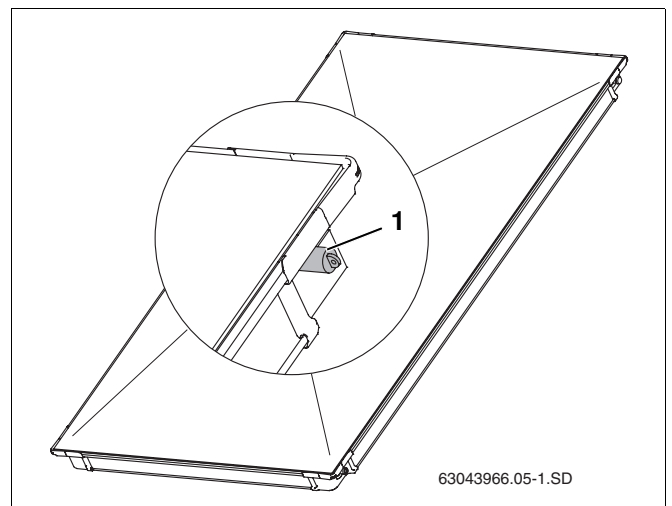

Fig. 5 Plastic caps on collector connections
- Do not remove the rubber caps (Fig. 5, **Item 1**) until immediately prior to installation.